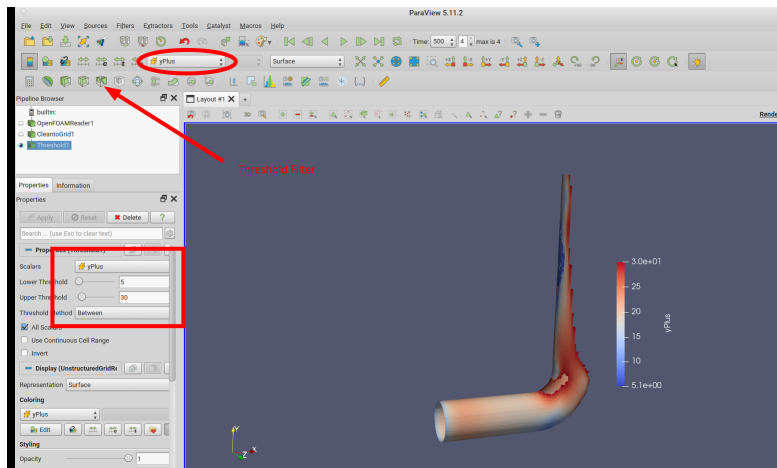

Figure 3: Region of the wall with y^+ between 5 and 30.
- Apply the **Threshold Filter** to show only the values of y^+ between 5 and 30. The size of the wall with these values is very large, as shown in Figure 3. This could be the reason of the poor convergence of the simulation,